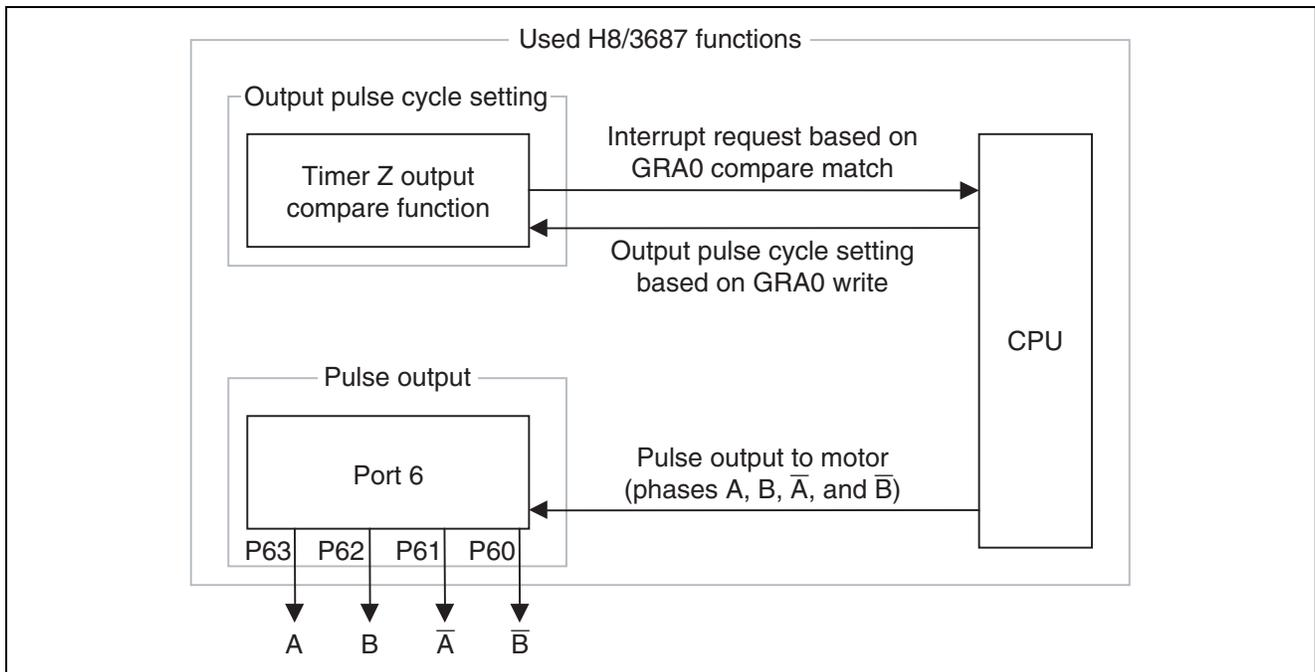

Figure 2 H8/3687 Functions Used
2.2 The following describes the H8/3687 functions used for stepper motor control. Figure 2 is a block diagram of the functions used for this sample task.